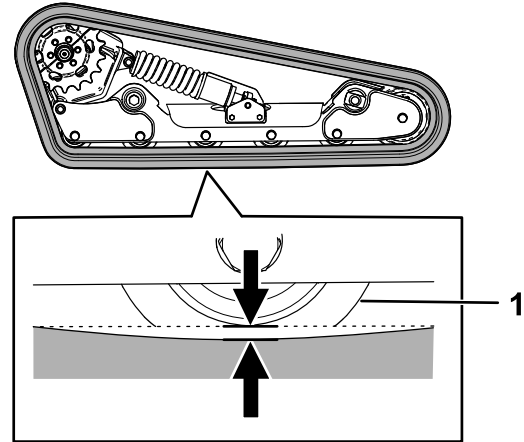

Figure 56
Lift/support 1 side of the machine and using the weight of the track, verify that the gap between the bottom of the lip of the road wheel and the track is 13 mm (1/2 inch) as shown in Figure 56. If it is not, adjust the track tension using the following procedure.
- Using a 1/2 inch drive ratchet, turn the tensioning screw until the track deflection is 13 mm (1/2 inch) as shown in Figure 56.
- Verify that the track deflection is 13 mm (1/2 inch) as shown in Figure 56. Adjust if necessary.
20. Using a 1/2 inch drive ratchet, turn the tensioning screw counter-clockwise until the track deflection is 12.7 mm (1/2 inch) as shown in Figure 56.
25. Verify that the track deflection is 12.7 mm (1/2 inch) as shown in Figure 56.